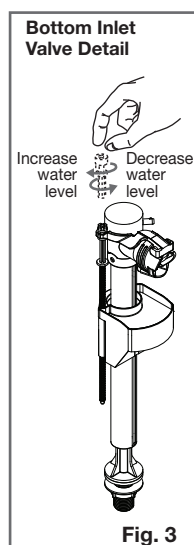

Fig. 3
- 4- Adjusting water level. Turn on water mains. Open the cistern stop valve and check the operation of the mechanisms and valve. Adjust water level to the water level mark inside the cistern by simply turning the float arm adjustment screw in a clockwise or anti clockwise direction as detailed in Fig. 3.